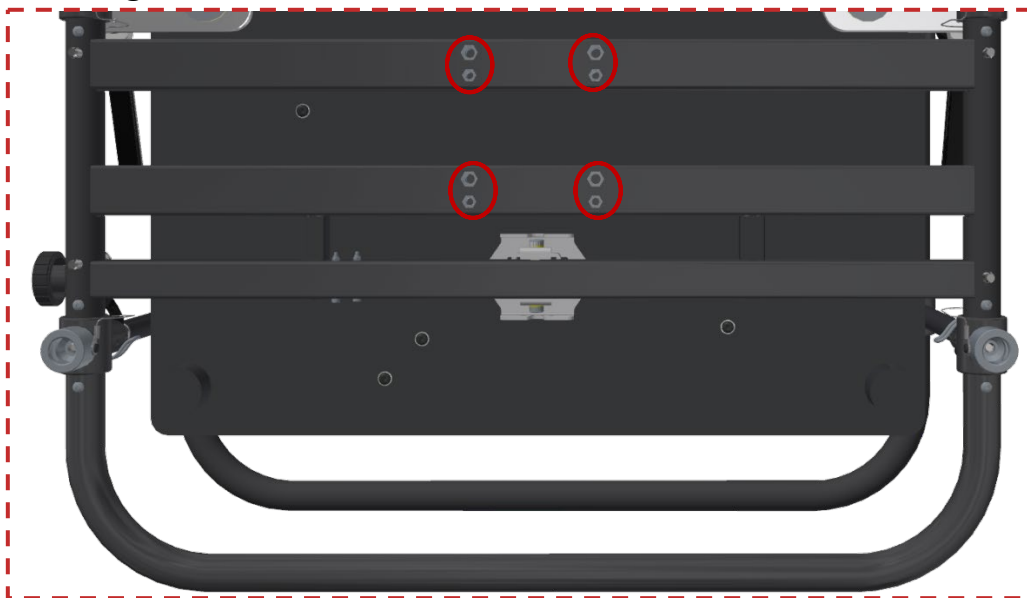

Figure 23 Inspection of mounting threads at bottom side
- Before and after each installation, the **M6 and M8 mounting holes** (see red marking in Figure 23) must be carefully inspected, as they may get damaged during the installation of the hanging accessory.